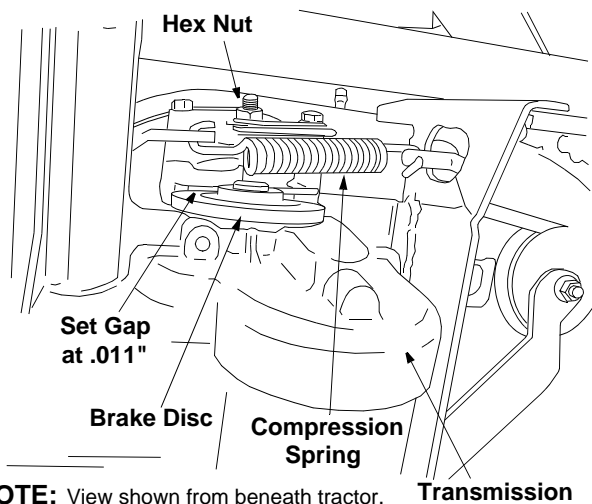

Figure 11
- Looking at the transmission from the left side of the tractor, locate the compression spring and brake disc. See Figure 11.